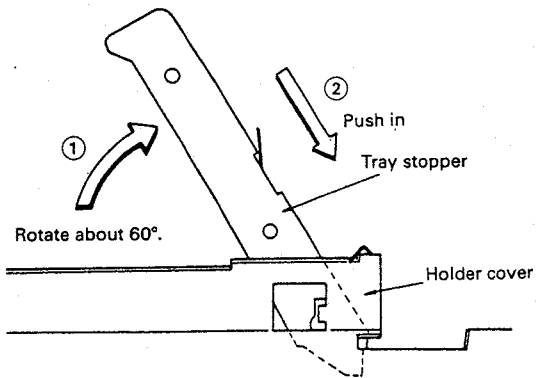

Fig. 9
- 4) Verify the tray stopper position. (Set it to the state as shown in Fig. 9 of "How to remove the lifter unit assembly".)